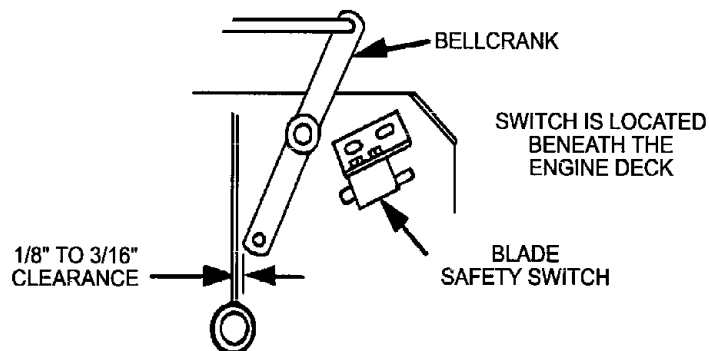

FIG. 10
- With blade drive engaged, adjust the linkage length to obtain 1/8" to 3/16" clearance between the lower end of the bellcrank and the axle support gusset (See Figure 10).